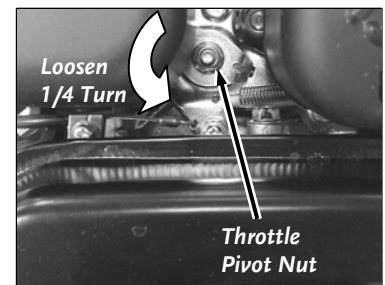

Figure 28
1. Loosen the Throttle Pivot Nut 1/4 turn counterclockwise and test the Throttle Lever (**Figure 28**). If the Throttle Lever fully returns to low idle, it is working properly. If there is still some hesitation of the Throttle Lever fully returning to low idle, turn the Throttle Pivot Nut another 1/4 turn and retest as needed.